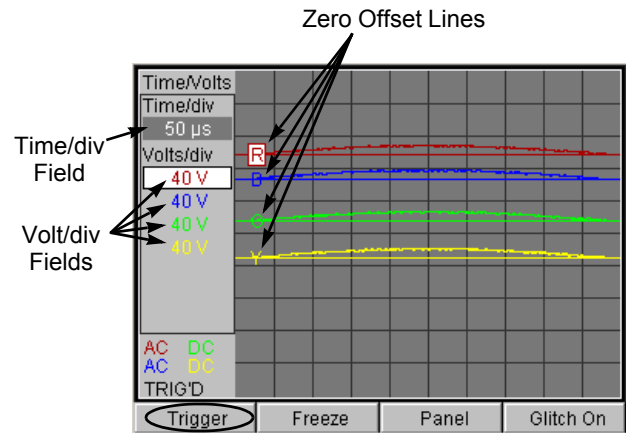

Figure 7.24: Lab Scope Screen, DMM Off - Time/Volts Pane Displayed (The selected color is red and the selected field is Time/div)
- » **ENTER key** - selects a different color (channel). The currently selected color has a box around the Volts/div field's number and the zero offset line's letter, as shown for the red line (R) in Figure 7.24.
- a Make sure the Time/div field is selected (shaded), as shown in Figure 7.24. If necessary, use the **Up or Down Direction** key to select the field.